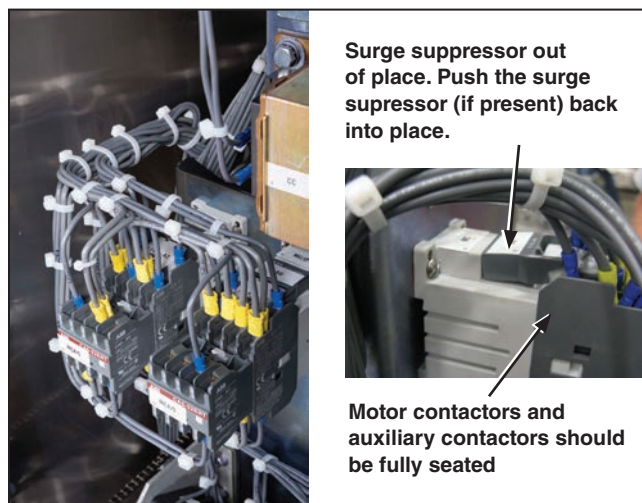

Figure 38. Checking the open and close motor contactors, auxiliary contact blocks, and surge suppressors behind the operator side panel.
- Correct polarity has been observed on dc-control-voltage models (Figure 38 on page 31.)